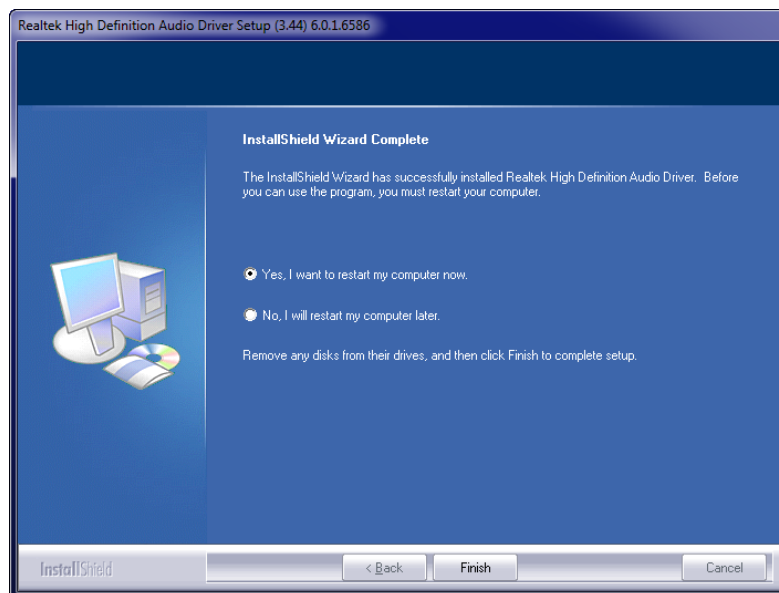

Figure 8-17: Audio Driver Installation Complete
Step 7: When the installation is complete, the screen in **Figure 8-17** appears.